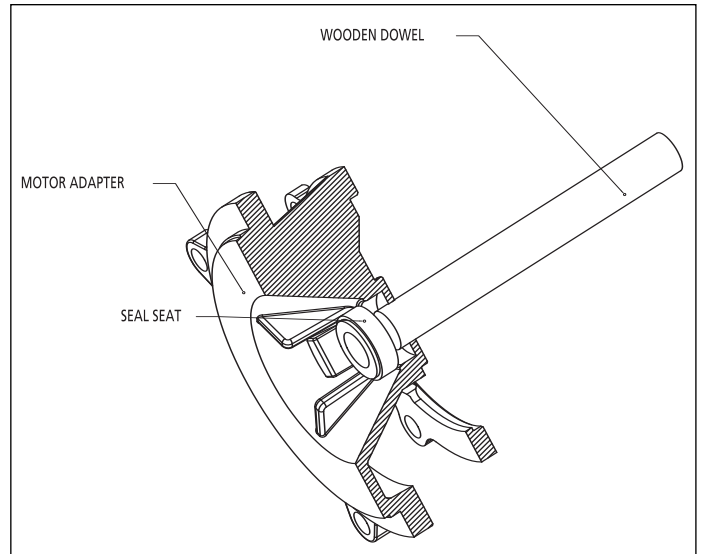

Figure 4 - Seal Seat Removal
6. Use a wooden dowel to push out the seal seat (part of Ref. No. 6) from the adapter (Ref. No. 4) (See figure 4).